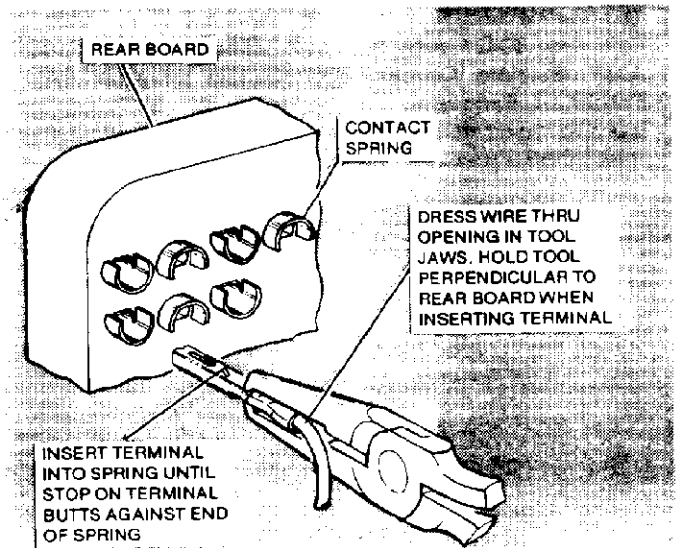

Figure 2
- (c) Dress wire thru opening in tool jaws. See Figure 2. Do not grip wire.
- (d) Hold tool perpendicular to rear board and insert terminal into contact spring. See Figure 2.